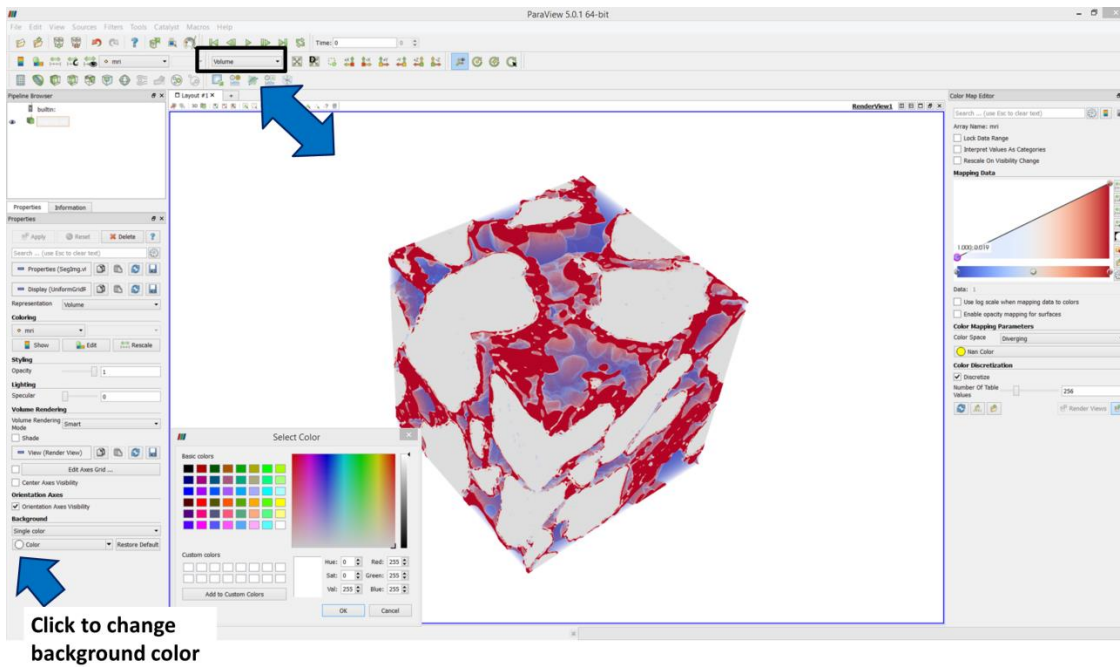

Figure 53: Volume rendered mode in ParaView
- Figure 53 shows the volume rendered plot. This is achieved by selecting the volume option highlighted by the black box in Figure 53. The stack can be further modified with different textures and opacity.
- Figure 53 also points out the option to change the background colour.